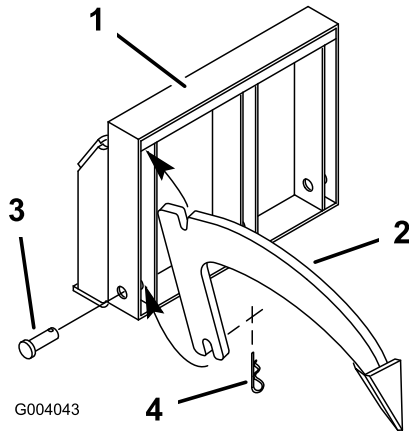

Figure 3
1. Slide the slot on top of the accessory into the top bar of 1 of the 3 accessory positions (Figure 3).
2. Swing the bottom of the accessory into the frame and secure it with a clevis pin (Figure 3).
3. Secure the pin with a hairpin cotter (Figure 3).